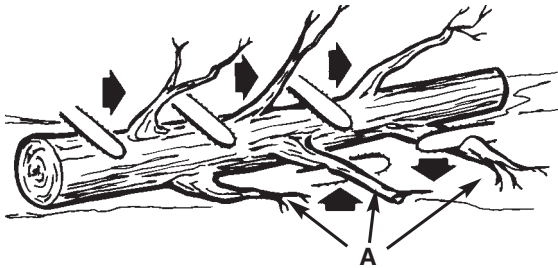

Fig. 18
Limbing a tree is the process of removing the branches from a fallen tree. Do not remove supporting limbs (A) until after the log is bucked (cut) into lengths (Fig. 18). Branches under tension should be cut from the bottom up to avoid binding the chain saw.